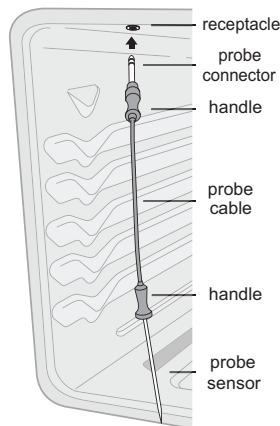

Figure 31: Using the probe
- Do not use kitchen utensils to pull on the probe cable or handles. Always insert and remove the probe using the provided handles, as shown in Figure 31.